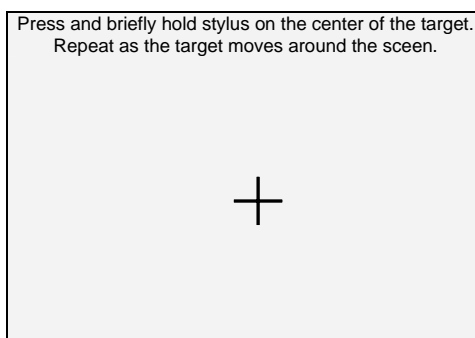

Fig. 17: Touch screen calibration screen
2. By pressing and soft hold the PT400 pointer on the central point of the cross cursor (see Fig. 17) move the cursor to the four corners of display